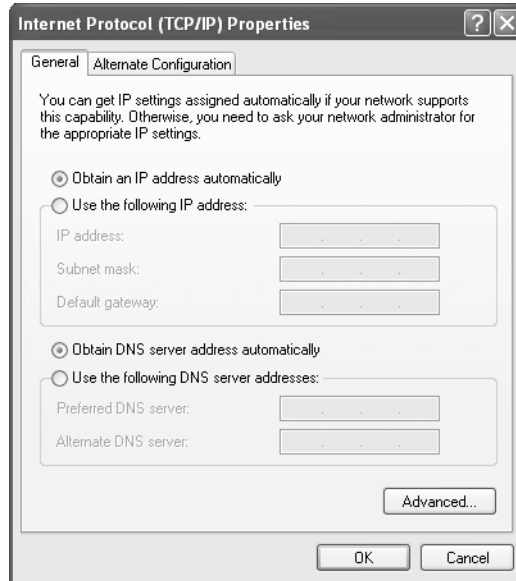

Figure 67: Internet Protocol Properties - Windows 2000
5. Click Properties. The Internet Protocol Properties window appears as shown in Figure 67.